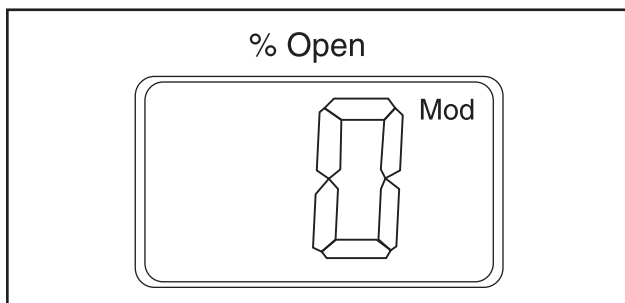

Figure 23
- Normally the Opening Degree (OD) 0 - 100% of the ICM valve is displayed. No activation of push buttons for 20 seconds means that the display will always show OD (Figure 23).